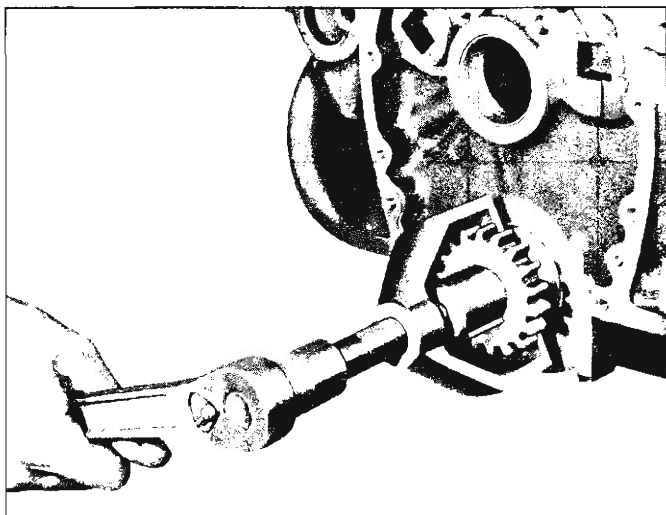
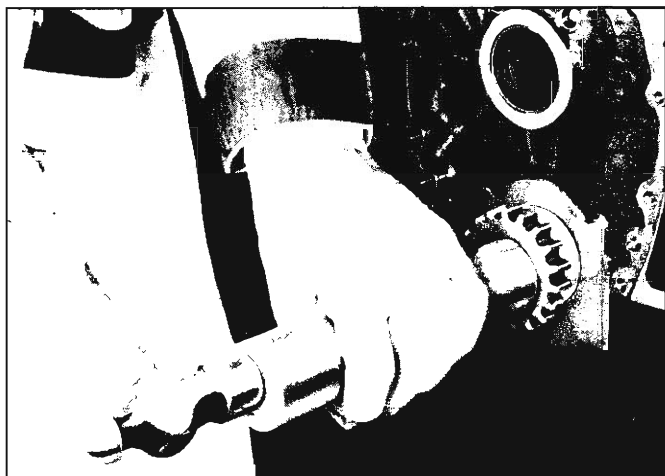

Fig. 12W—Removing Crankshaft Sprocket
Fig. 13W—Installing Crankshaft Sprocket
5. If crankshaft sprocket is to be replaced, remove it using Tool J-5825 (fig. 12W). Install new sprocket, aligning key and keyway, using Tool J-5590 (fig. 13W).